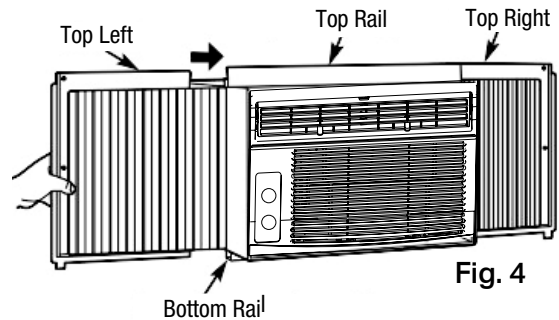

Fig. 4
E. Slide the panel all the way in and repeat on the other side. Fig. 4."